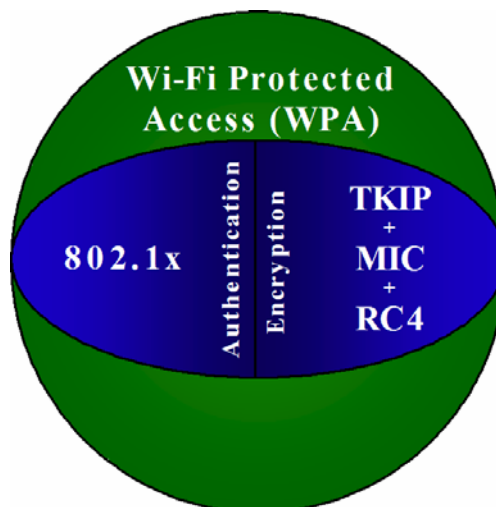

FIG. 113 WPA Overview
- To resolve problems with WEP, the Wi-Fi Alliance released WPA (FIG. 113) which integrated **802.1x**, **TKIP** and **MIC**. Within the WPA specifications the RC4 cipher engine was maintained from WEP. RC4 is widely used in SSL (Secure Socket Layer) to protect internet traffic.